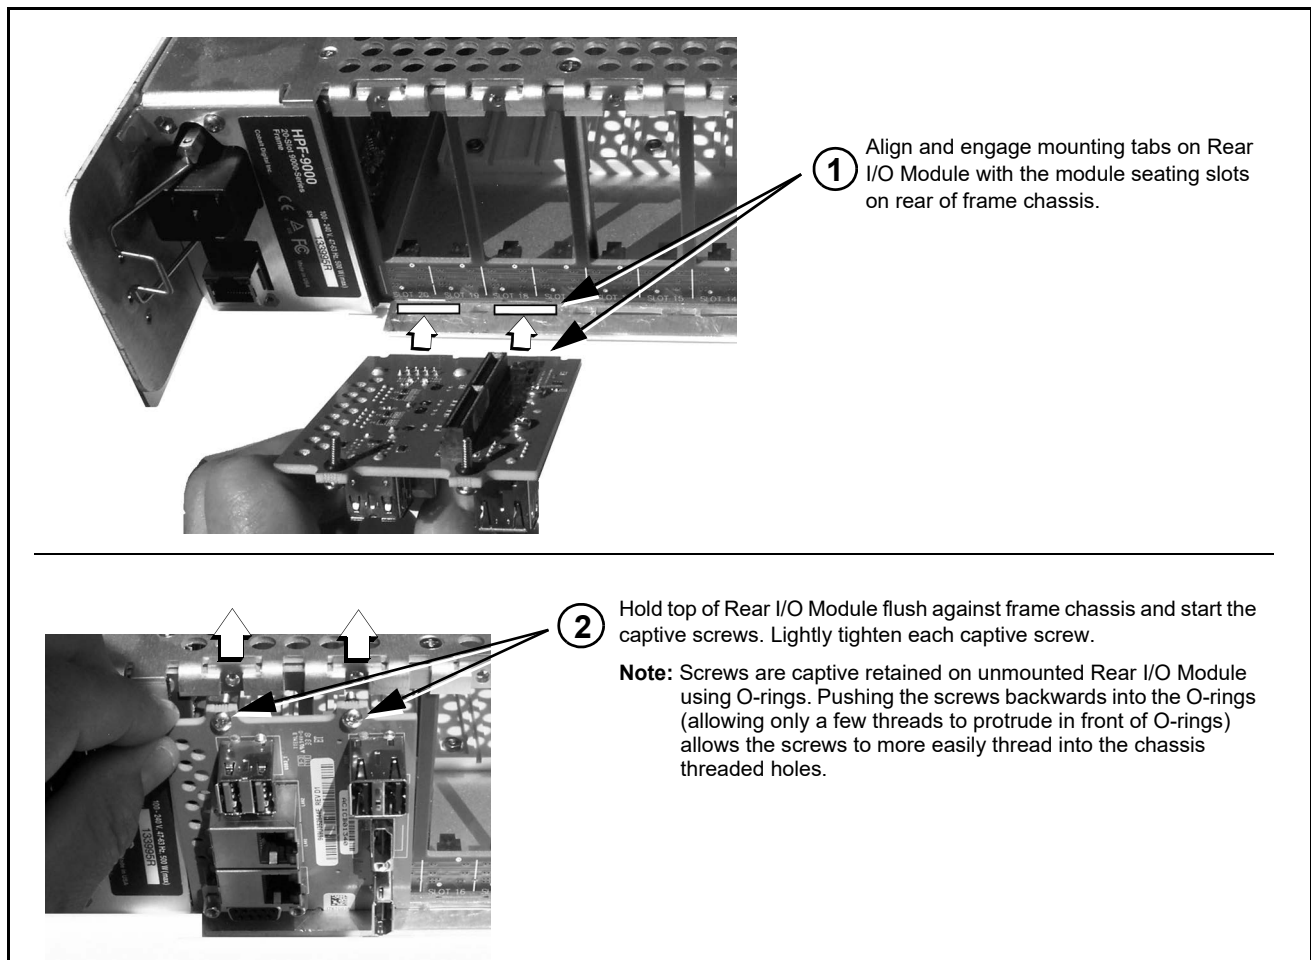

Figure 2-1 Rear I/O Module Installation
2. In the mounting area corresponding to the slot location, install Rear I/O Module as shown in Figure 2-1.